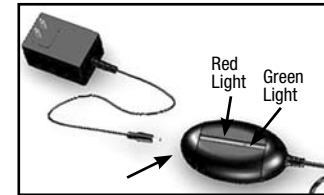

FIGURE H1
- STEP 1:** Connect the Plug Adapter to the Recharger input socket [Fig. H1]. Plug the Adapter into the AC power outlet. The red indicator light will flash three (3) times.